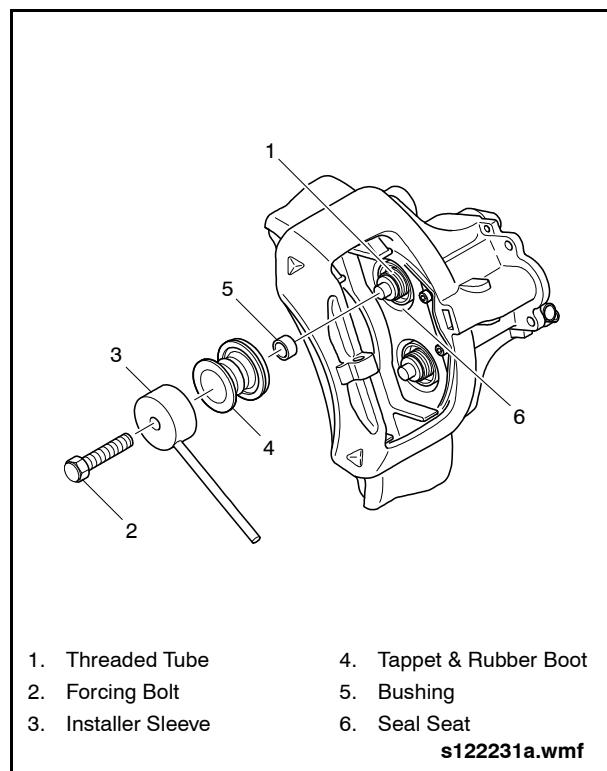

Fig. 2-139: Installing Tappet & Rubber Boot
9. Hold the installer sleeve (Item 82 from special tools list) against the rubber boot and use the long forcing bolt to press the rubber boot against the stop in the seat. See "Fig. 2-139: Installing Tappet & Rubber Boot" on page 118.